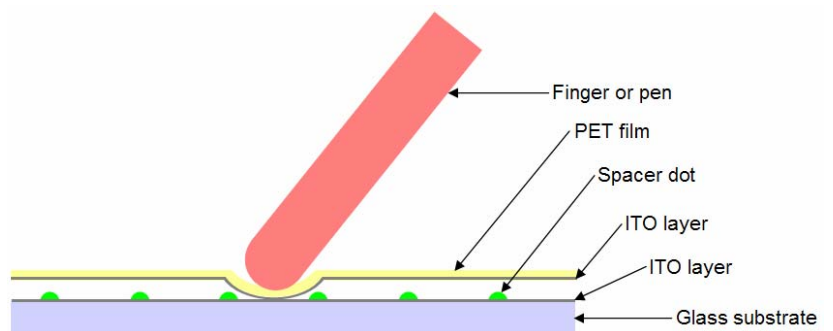

Figure 1: Basic components of a typical resistive touchscreen
**How Palm Rejection Works:** Figure 1 shows the basic components of a typical resistive touchscreen. A touchscreen contains two layers of transparent conductor (ITO, indium tin oxide), one on top of the glass substrate and one on the underside of the PET (polyethylene terephthalate) top layer. The two layers are kept apart by transparent spacer dots. When a finger or pen presses on the top surface, the transparent conductors make contact and the touchscreen controller determines the touch position.